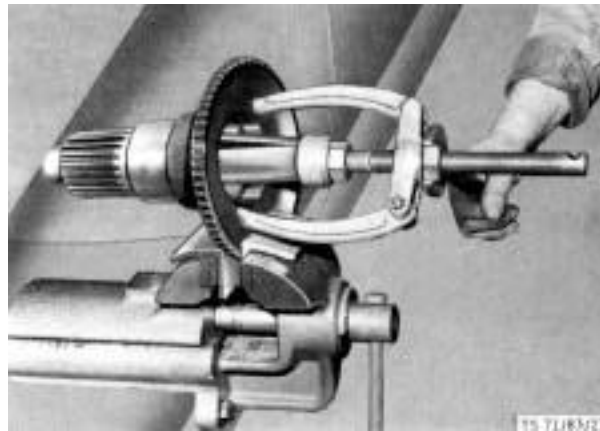

FIG. 5-24
- 12. Refer to Fig. 5-13, when removing the needle bearing 20 from rear output shaft, the puller (part 1 in Fig. 5-24) and the puller support (part 2 in Fig. 5-24) should be used.